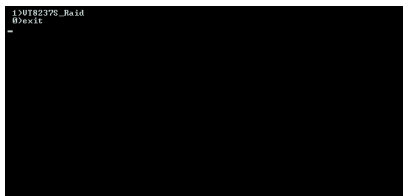
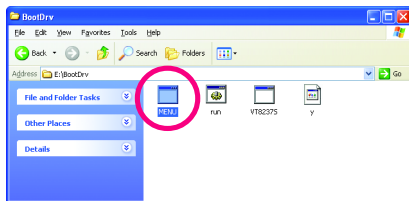

Figure 2
Figure 3
Step 2: When the controller menu (Figure 2) appears, remove the startup disk and insert the blank formatted disk. Select the controller driver by pressing the corresponding letter from the menu. For example, from the menu in Figure 2, press 1 to select VT8237S_Raid for Windows operating system. Your system will then automatically zip and transfer this driver file to the floppy disk. Press <0> to exit when finished.
Use an alternative system and insert the motherboard driver disk. From your optical drive folder, double click the **MENU.exe** file in the **BootDrv** folder (Figure 3). A command prompt window will open similar to that in Figure 2.